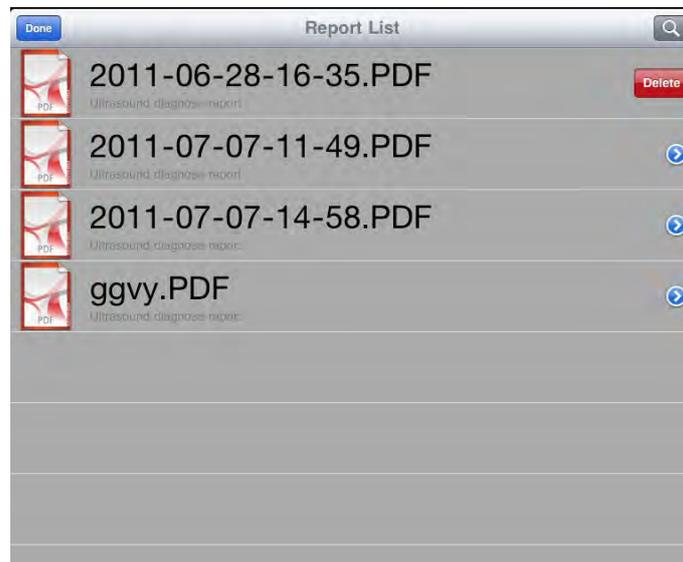

Fig. G-20 Report list
- ◆ To delete a saved PDF report, tap the view icon to view the list of reports. Slide gently over the title of the report that you want to delete, and you will see a delete icon. Tap on  to delete the report, as shown in Fig. G-20.